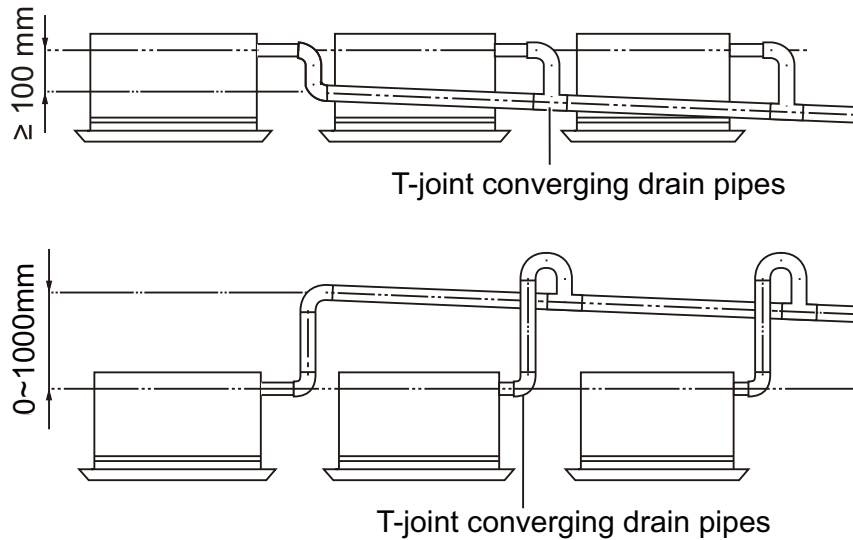

Fig.20
- (3). When unifying multiple drain pipes, install the pipes as Fig.20. Select converging drain pipes whose gauge is suitable for the operating capacity of the unit.(take the cassette type unit for example)